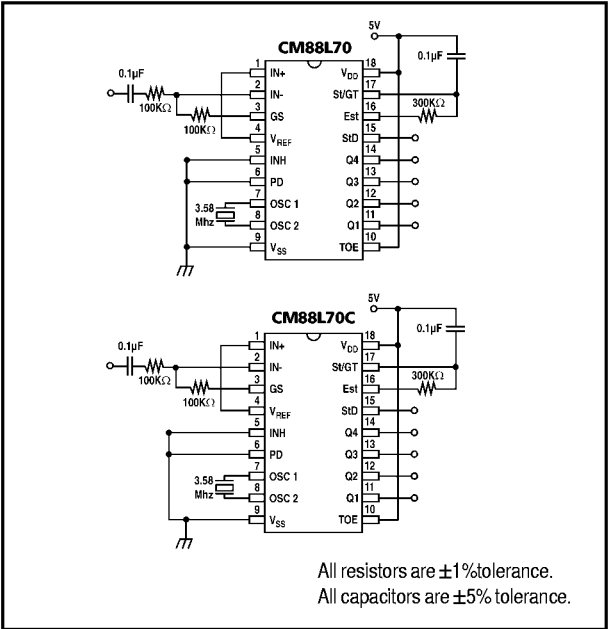

Figure 1. Single Ended Input Configuration
**AC Characteristics:** All voltages referenced to  $V_{SS}$ ,  $V_{DD}=3.0V + 20\% / -10\%$ ,  $T_A=-40^{\circ}C$  to  $+85^{\circ}C$ ,  $f_{CLK}=3.579545$  MHz using test circuit (Fig. 1) unless otherwise noted.
14. Referenced to Figure 1. Input DTMF tone level at -28 dBm.
The value of  $t_{DP}$  is a parameter of the device and  $t_{REC}$  is the minimum signal duration to be recognized by the receiver. A value for C of 0.1  $\mu$ F is recommended for most applications, leaving R to be selected by the designer. For example, a suitable value of R for a  $t_{REC}$  of 40 milliseconds would be 300K. A typical circuit using this steering configuration is shown in Figure 1. The timing requirements for most telecommunication applications are satisfied with this circuit. Different steering arrangements may be used to select independently the guardtimes for tone-present ( $t_{GTP}$ ) and tone absent ( $t_{GTA}$ ). This may be necessary to meet system specifications which place both accept and reject limits on both tone duration and interdigit pause.
In a single-ended configuration, the input pins are connected as shown in Figure 1, with the op-amp connected for unity gain and  $V_{REF}$  biasing the input at  $\frac{1}{2} V_{DD}$ . Figure 6 shows the differential configuration, which permits the adjustment of gain with the feedback resistor R5.